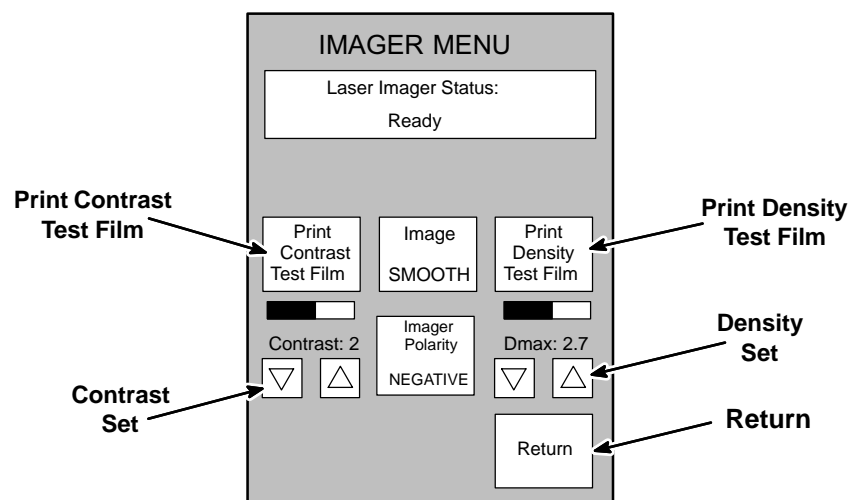

Figure 4-8. Adjusting Image Density and Contrast
2. Press the key labeled **Print Density Test Film** on the Imager Menu (see Figure 4-8). The imager will print a SMPTE test print.